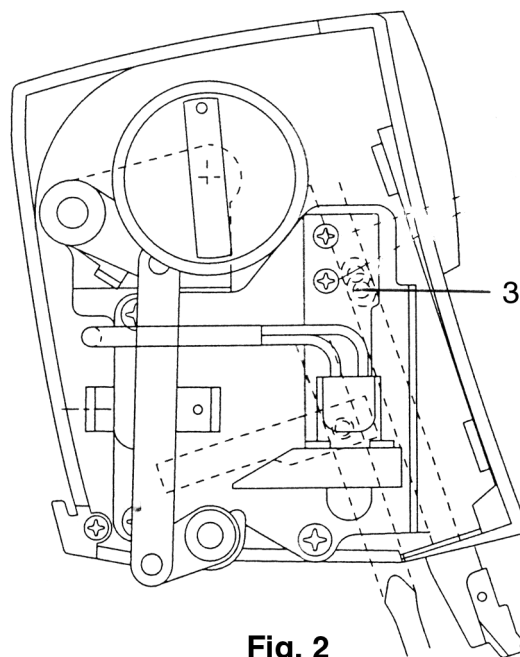

Fig. 2
- Slightly loosen the screw 3 of the needle bar connection (fig. 2).